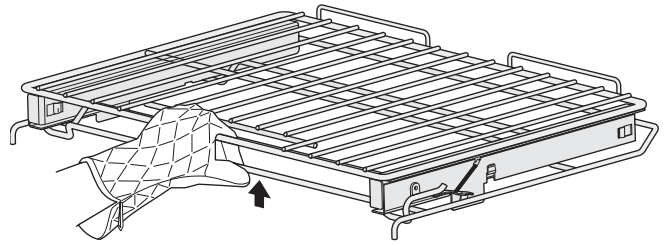

Figure 11: Extendable glide rack
1. Using one hand, reach through the handle opening and lift up on the release lever located across the lower front of the rack, as shown in Figure 11.